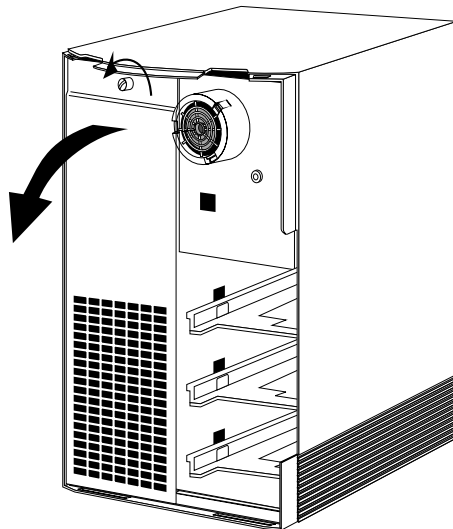

Figure 3-3 Opening the Front Metal Panel
- Loosen the panel by unscrewing the thumbscrew, as shown in Figure 3-3.